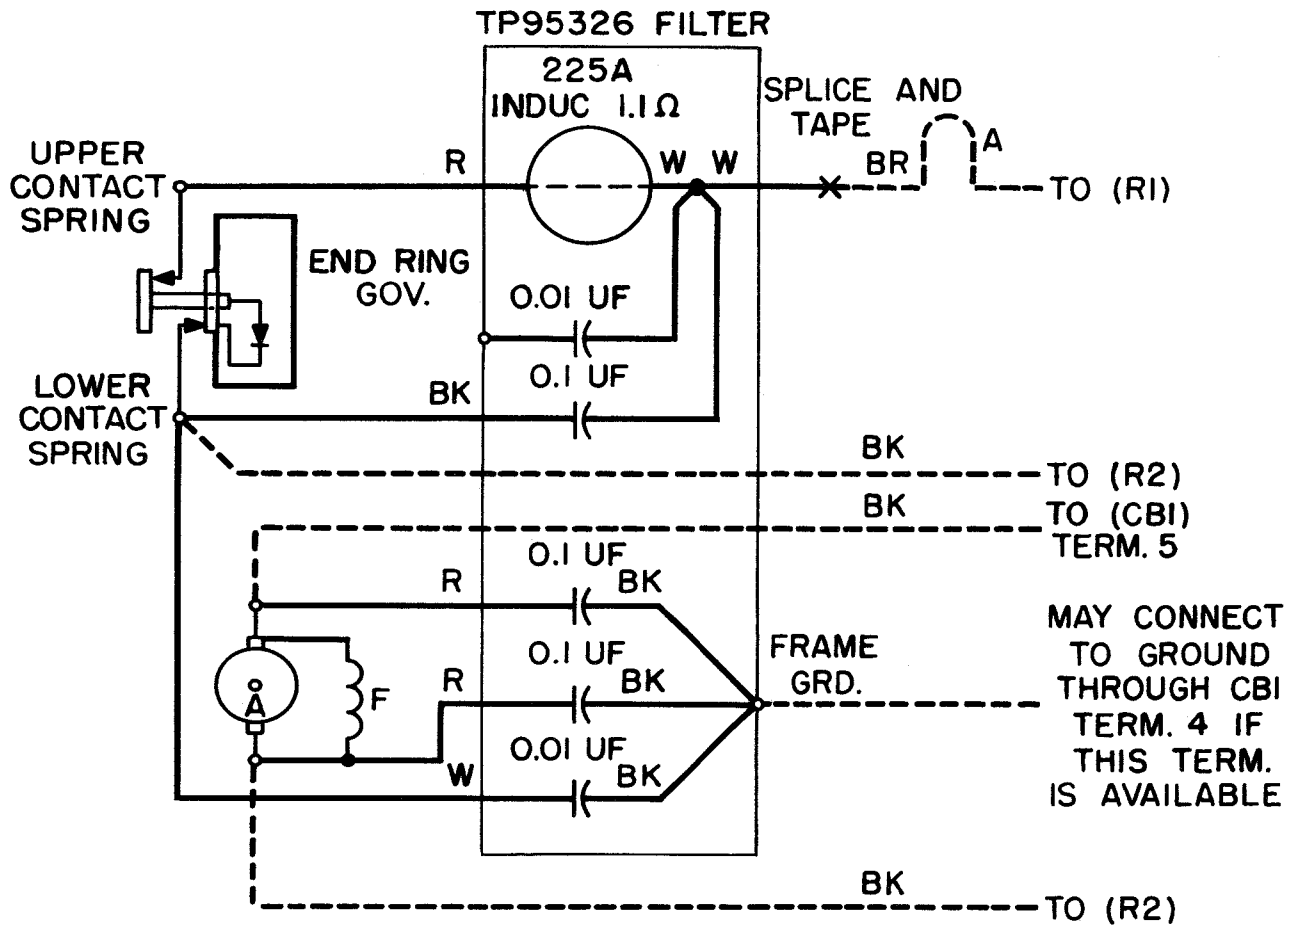

Figure 1
2.02 Connect the Filter as Follows: (See Figure 1)
Note: On some units it may be found that the brown and black leads to the end-ring governor springs are reversed. If so, remove them and reconnect as indicated in Figure 1.